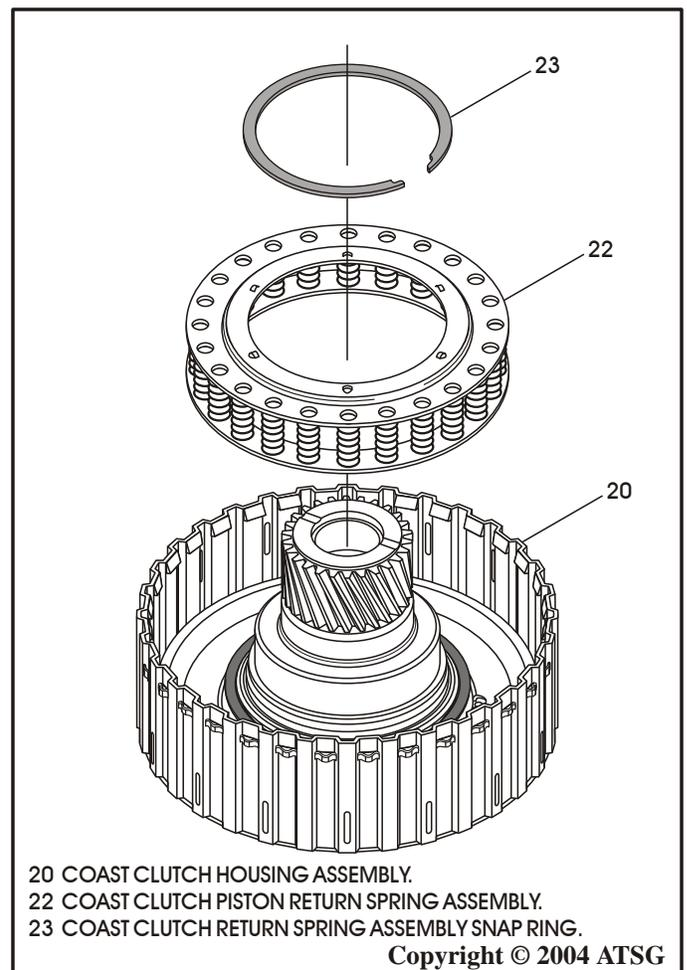

Figure 99
7. Install the coast clutch piston return spring assembly, as shown in Figure 99.
8. Compress the return spring using the proper adapters and install the snap ring, as shown in Figure 99.